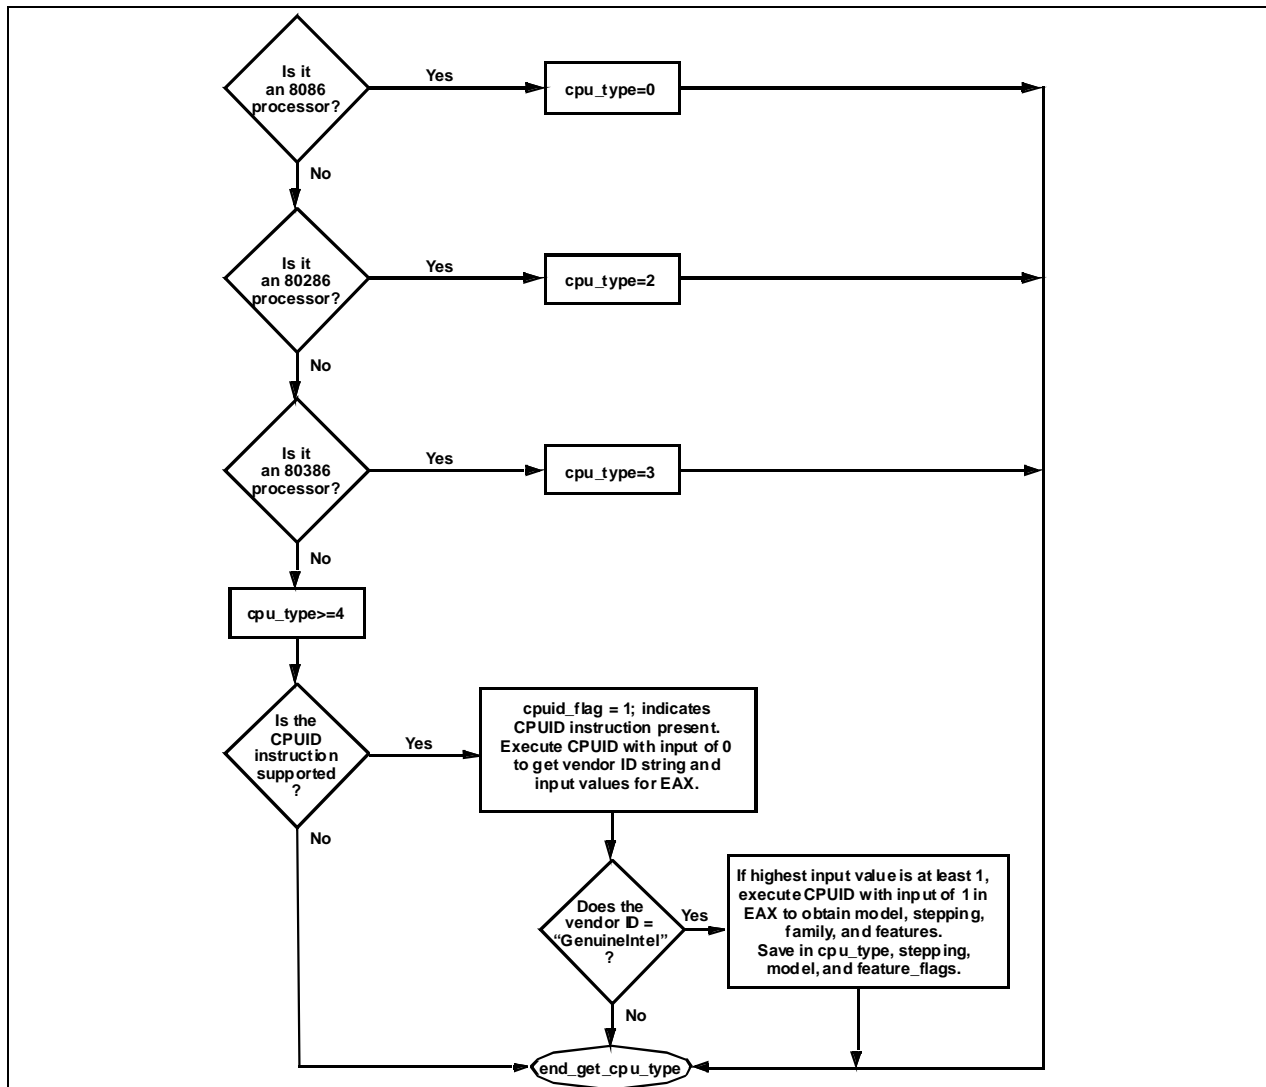

Figure 5. Flow of Processor get_cpu_type Procedure
The cpuid3a.asm program example demonstrates the correct use of the CPUID instruction (see Example 1). It also shows how to identify earlier processor generations that do not implement the Brand String, Brand ID, processor signature or CPUID instruction (see Figure 5). This program example contains the following two procedures:
- `get_cpu_type` identifies the processor type. Figure 5 illustrates the flow of this procedure.